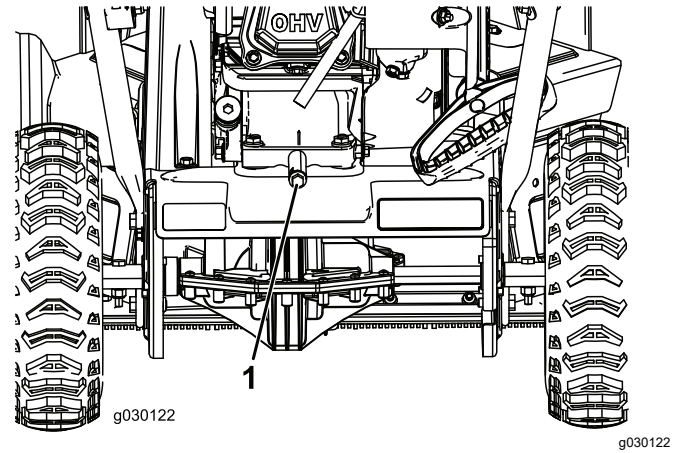

Figure 20
2. Place an oil-drain pan under the oil-drain plug, remove the oil-drain plug, and tip the machine backward and drain the used oil in the oil-drain pan (Figure 20).